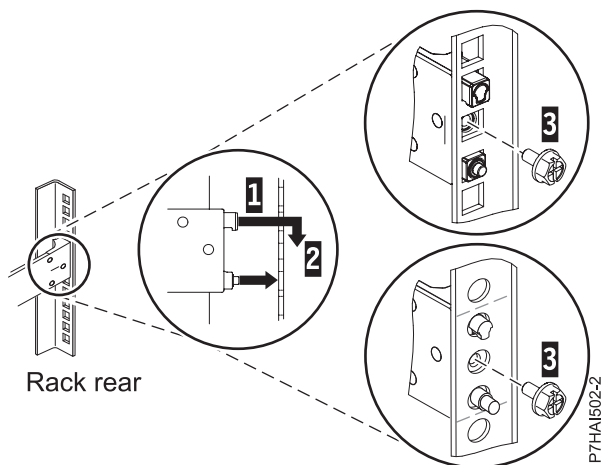

Figure 20. Aligning and engaging the pins into the holes in the rear of the rack
3. Align the two pins located on the rear of the slide rail with the top and bottom holes within the selected EIA unit that were previously marked. Pull the slide rail toward you to insert the two pins into the rack holes (1), and lower the slide rail down (2) to engage the hook feature on the top pin. For details, see Figure 20 on page 24. Ensure that the two pins protrude through the rack holes before you proceed to the next step.